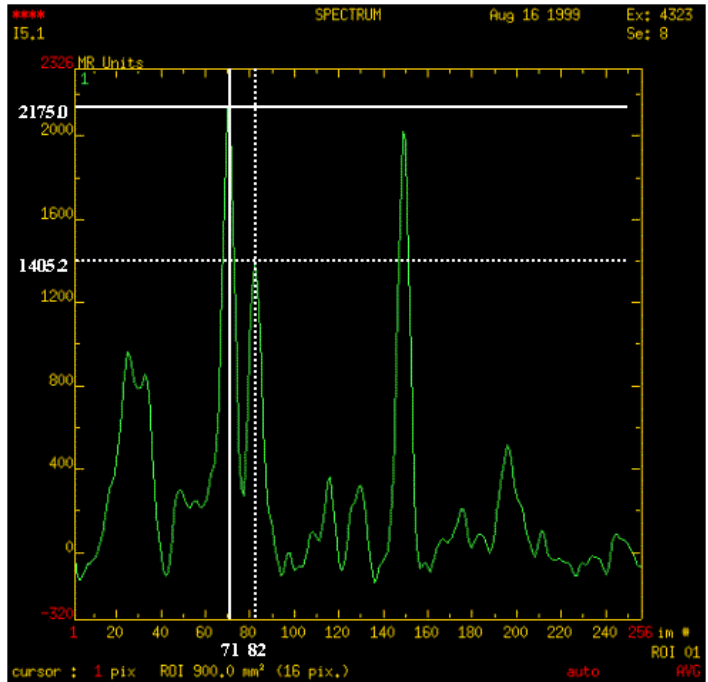

Figure 22: Spectral grid viewport. Solid White=choline peak maximum. Dotted white=creatine maximum.
- (1) Have a valid 3D Focal CSI data set with the display tool launched.
- (2) Select **[Get Protocol]**.
- (3) Select a metabolite ratio protocol.
- (4) Determine the maximum for the desired metabolite peaks using the cursor in the spectral grid view. The example shown in Figure 22, the solid white lines indicate that the maximum choline signal appears at point **71**, and the dotted white lines show that the maximum creatine value occurs at point **82**. In actual practice the maximum value for the creatine peak would be determined using solid white lines too, but for illustration dotted white lines
are used to show the maximum creatine value in Figure 22.